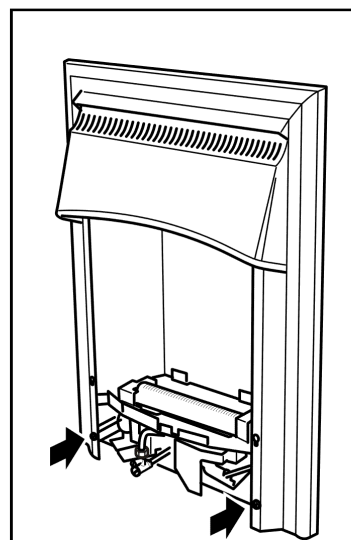

Figure 27. Outer surround side attachment.
2. Refit the two screws to secure the surround sides to the convection box brackets (See figure 27).